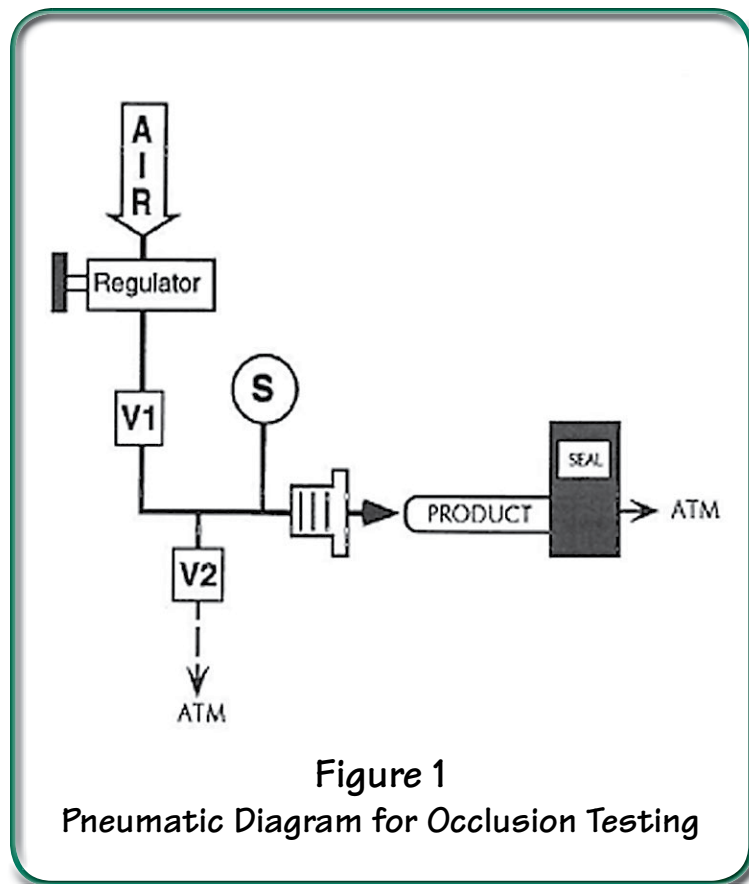

Figure 1
1. The product is attached to the test port and the open end of the product is placed in the clamping fixture. (Figure 1)